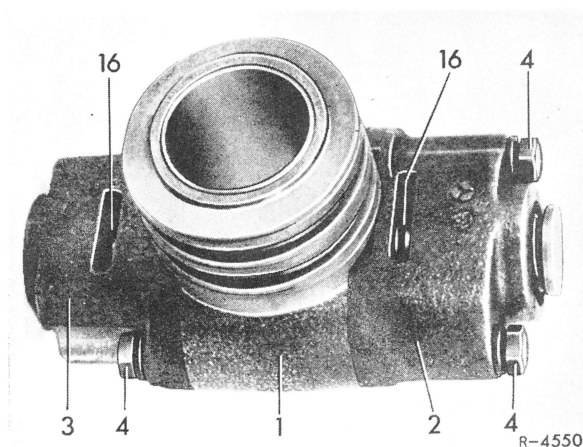
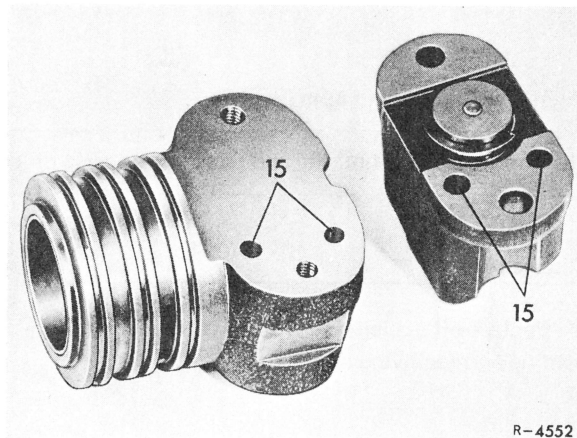
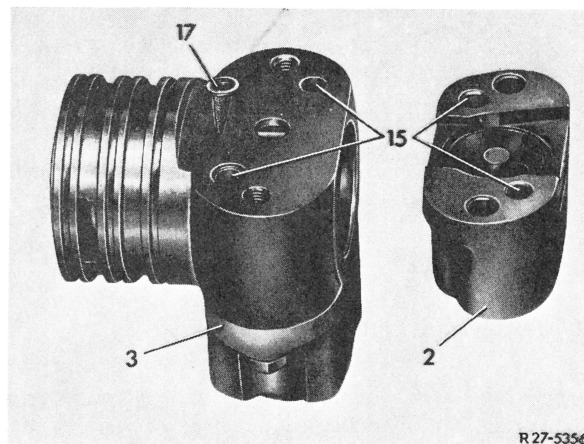

Fig. 2
Fig. 6
Fig. 7
2 Unscrew hex. bolts (4) (Fig. 2).
11 Position shift housing (3) on flange (1) in such a manner that the oil outlet slots (16) are facing the oil seal rings (Fig. 2) and the oil ducts (15) are in agreement (Fig. 6).
12 Insert strainer (17) into seat provided in oil duct (Fig. 7) and mount governor housing (2) with the oil outlet slots (16) facing the oil sealing rings (Fig. 2).
13 Tighten hex. bolts (4) to 0.8 kpm (Fig. 2).